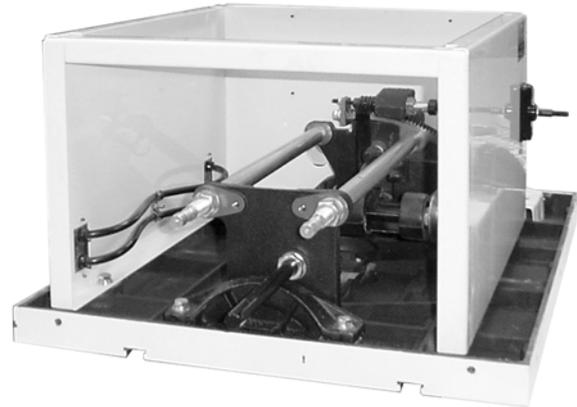

Figure 1
1. Finish removing all contents from the shipping carton. Keep the saw table upside down (Figure 1) and place on a two-by-four or similar piece of wood under the rear of the saw. This will help when picking up the table again. Do not discard the carton or packing material until the saw is assembled and is running satisfactorily.